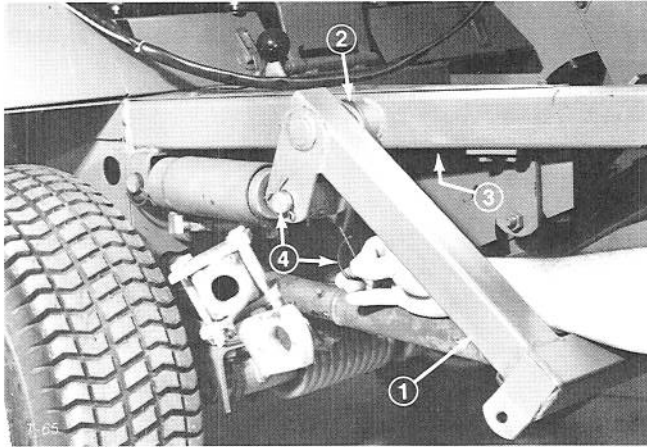

Figure 4
4. Remove standard lift arm from traction unit and replace with new arm (Fig. 4). Use the original washers from the standard arm on the pivot pin and secure arm to frame with new cotter pin (Fig. 4). Use original pin and spring pin to mount lift cylinder (Fig. 4).